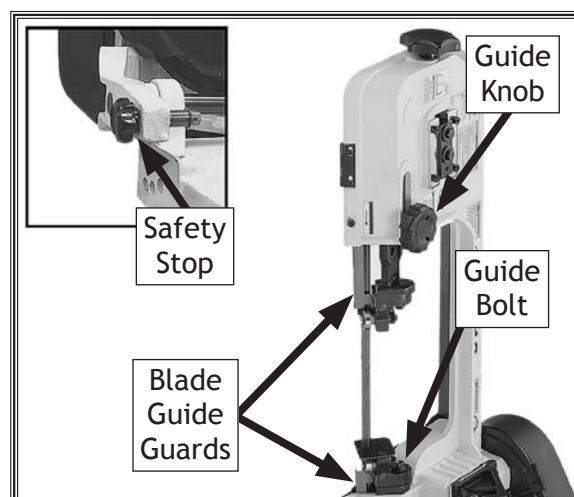

Figure 32. Blade guide guards and fasteners.
3. Push the safety stop in, use a screwdriver to remove the upper and lower blade guide guards, and loosen the blade guides (see **Figure 32**).